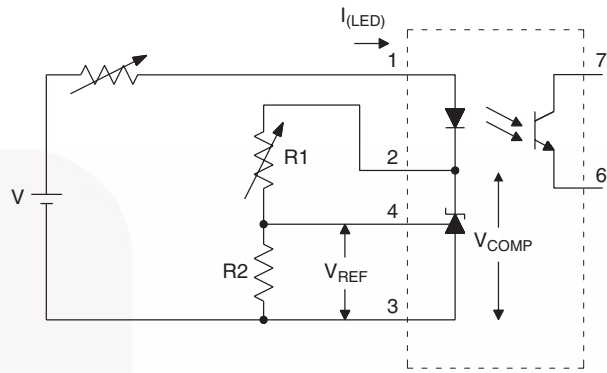

Figure 2.  $\Delta V_{REF} / \Delta V_{COMP}$  Test Circuit
3. The dynamic impedance is defined as |ZOUT| = ΔVCOMP/ΔILED. When the device is operating with two external resistors (see Figure 2), the total dynamic impedance of the circuit is given by: